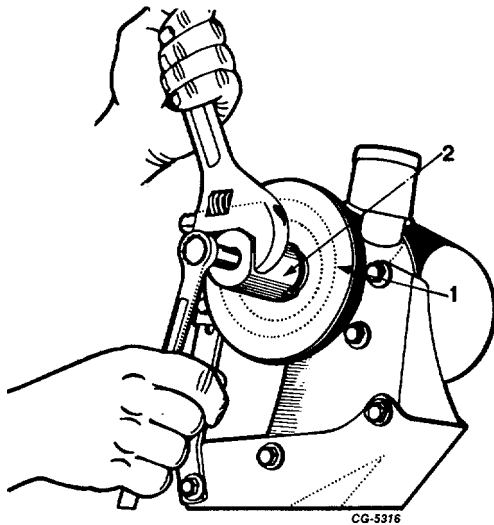

Fig. 23 Using SE-2420 Puller to Remove Power Steering Pump Pulley
19. Use SE-2420 Puller and wrench to remove power steering pulley, Figure 23.